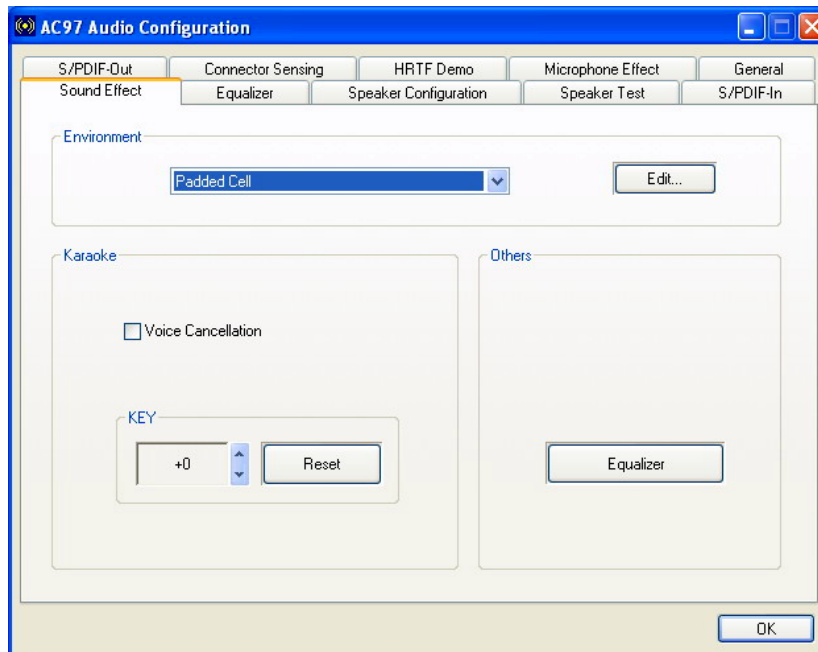

Figure D-4: Sound Effects Manager (ALC655)
Step 3: The sound effect manager appears. (See **Figure D-4**)
The Sound Effect Manager shown in **Figure D-4** is for the Realtek ALC655 audio CODEC. Different CODECs may have different sound manager appearances.
The **Sound Effects Manager** enables configuration of the items listed below. To configure these items click the corresponding menu tab in the **Sound Effects Manager** in **Figure D-4**.